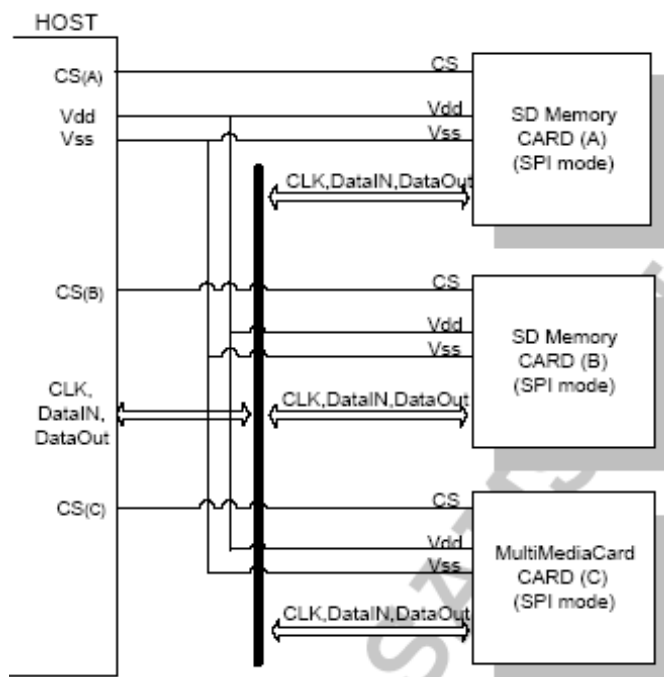

Figure 5-4 : SD Memory Card system (SPI mode) Bus Topology
The card identification and addressing methods are replaced by a hardware Chip Select (CS) signal. There are no broadcast commands. For every command, a card (slave) is selected by asserting (active low) the CS signal (see Figure 5-4).